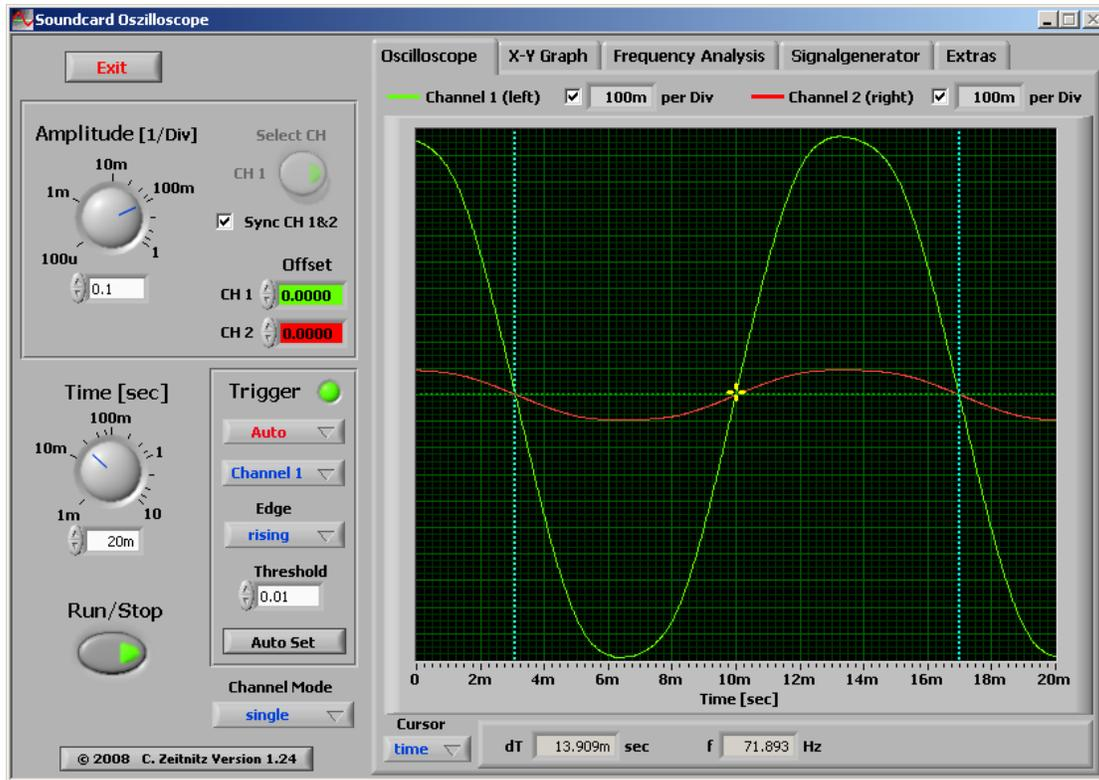

Figure 6: Using time cursors to display frequency.
17. Change the Cursor setting to "time." Adjust the cursors to measure one complete period. Using the zero crossings is convenient. In this example, shown in Figure 6, dT (delta time) is 13.909 ms and f (frequency) is 71.893 Hz. Each ANDY board will have component variations, which will affect the lowest frequency produced by the function generator.